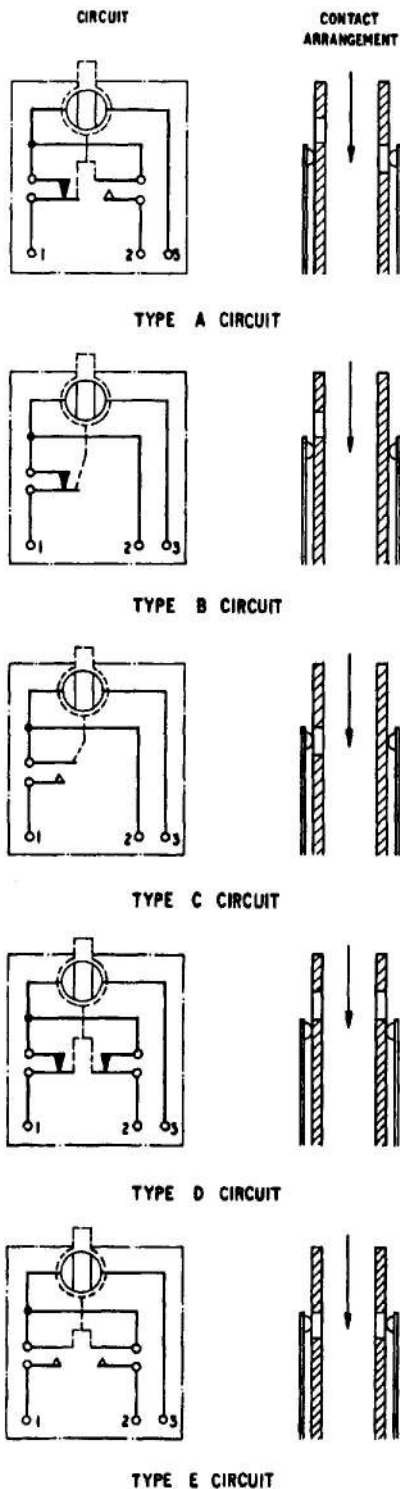

Fig. 2. Circuit diagrams and contact arrangements
2. The lamps are panel mounted and are secured by a front plate, and a locking washer and circular nut, which are screwed onto the body of the lampholder. Contained within the aluminium alloy body are the spring loaded press-to-test switch and the M.E.S. lampholder. The leaf spring contacts of the switch are connected to the terminal posts, which may have terminal screws or soldering spills for cable connection, and are spring loaded to bear on a barrel machined integrally with the side-contact of the lampholder. Holes drilled in the barrel permit the contacts to rest on an inner insulating sleeve, open circuiting the lamp connection as shown in fig. 2. The positioning of these holes determine the internal circuit of the lamp, and in this series gives the five circuit variants shown in fig. 2, the suffix letter of the lamps listed in Table 1 indicates the circuit used in each lamp. The filament carrier caps used with the warning lamps may be of glass or plastic construction, with or without a day/night dimmer and are identical to those described and illustrated in Chapter 38.